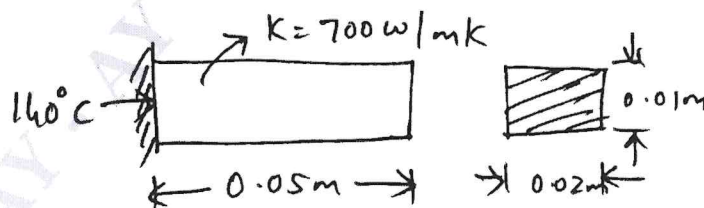

Fig. Q7 (b)
b. Determine the temperature distribution in the rectangular fin as shown in Fig. Q7 (b). Assume steady state and only conduction process. Take heat generated inside the fin as 400 W/m^3 . (10 Marks)